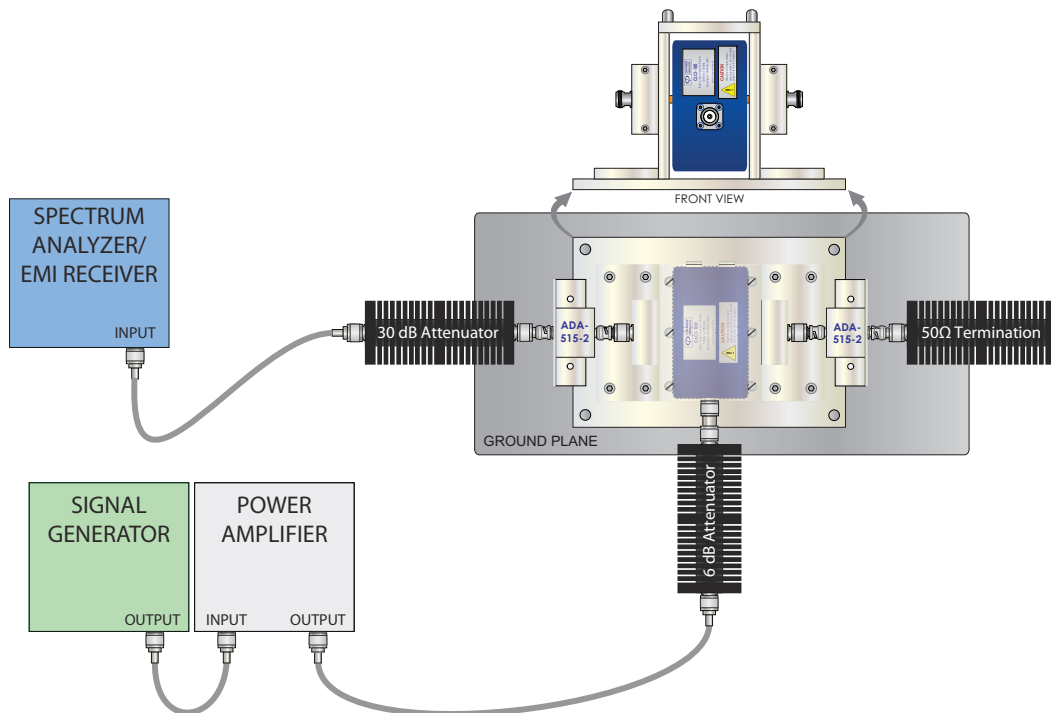
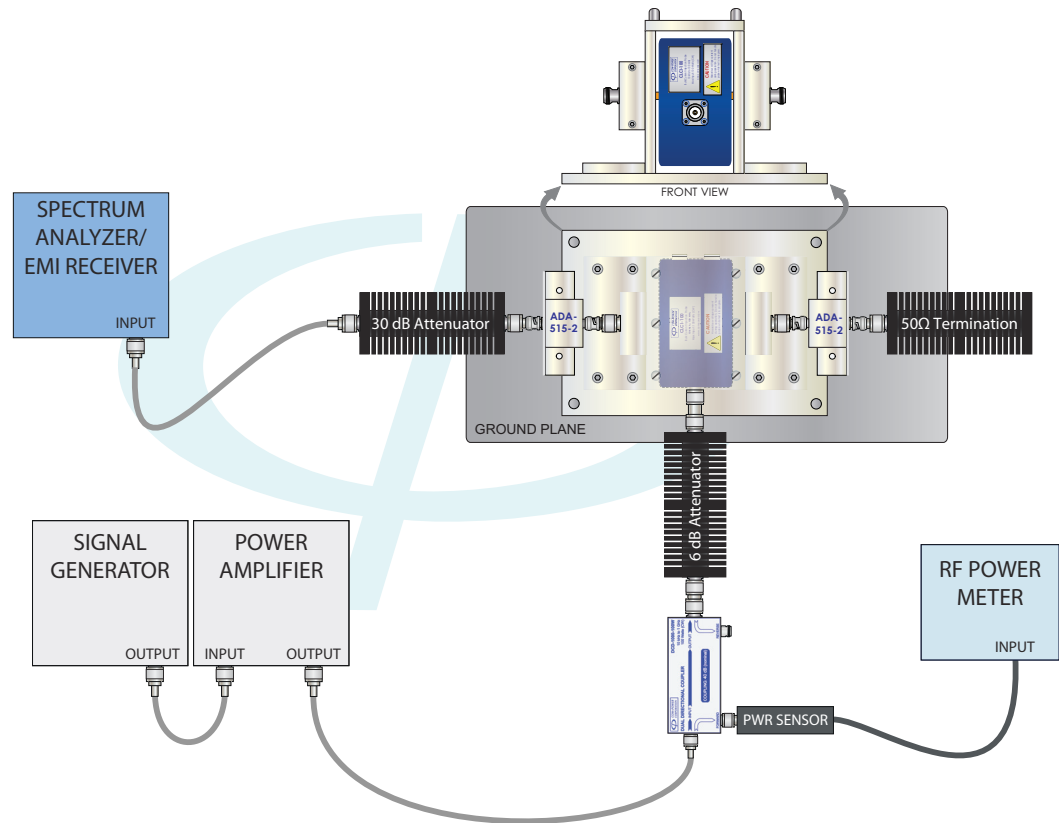

FIGURE 11 - IEC 61000-4-6 (Method A) Test Level Calibration Setup
FIGURE 12 - IEC 61000-4-6 (Method B) Test Level Calibration Setup
As shown in **Figure 11 (for METHOD A)**; or, as shown in **Figure 12 (for METHOD B)**, as appropriate, complete the calibration setup.
- 1) With the calibration test setup configured as shown in **Figure 11** or **Figure 12**, set the frequency of the signal generator to 150 kHz (without modulation).
- 6) Repeat steps (2) through (5) until the next frequency in the sequence would exceed the highest frequency of the test.